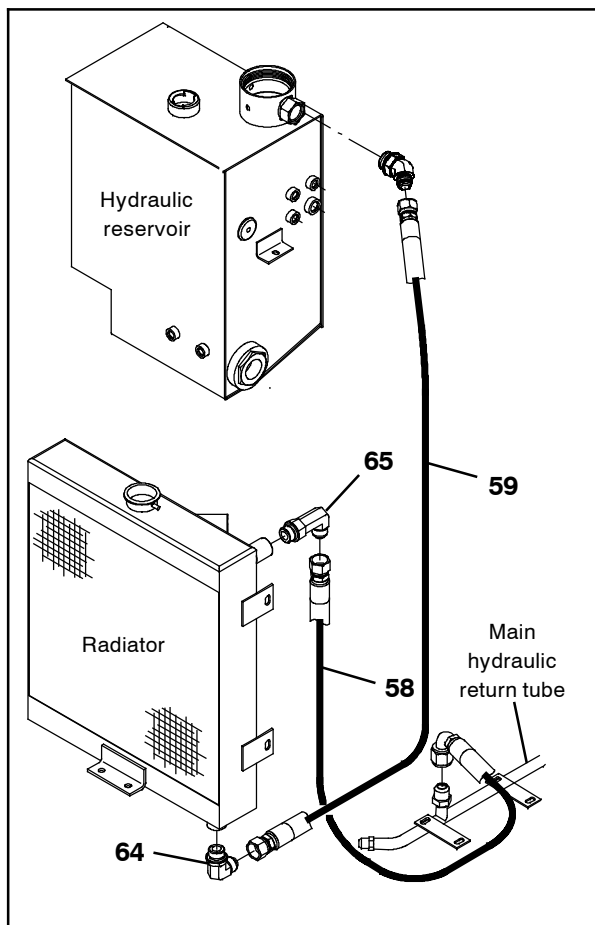

FIG. 14
40. Connect the 46 in. hydraulic hose (59) to the hydraulic reservoir. (Fig. 14)
41. Route the 46 in. hydraulic hose (59) to the radiator (1) and connect the 46 in. hydraulic hose to the hydraulic fitting located on the bottom of the radiator. (Fig. 14)
42. Connect the 29 in. hydraulic hose (58) to the main hydraulic return tube. (Fig. 14).
43. Route the 26 in. hydraulic hose (58) to the radiator (1) and connect the 29 in. hydraulic hose to the hydraulic fitting located near the top of the radiator. (Fig. 14)
44. Connect all coolant hoses to the radiator (1).
45. Install the radiator cap (2) onto the radiator.
51. Check the radiator screen (20) daily for damage and obstructions. Clear all dirt and obstructions from the screen. Replace the screen if it is damaged.